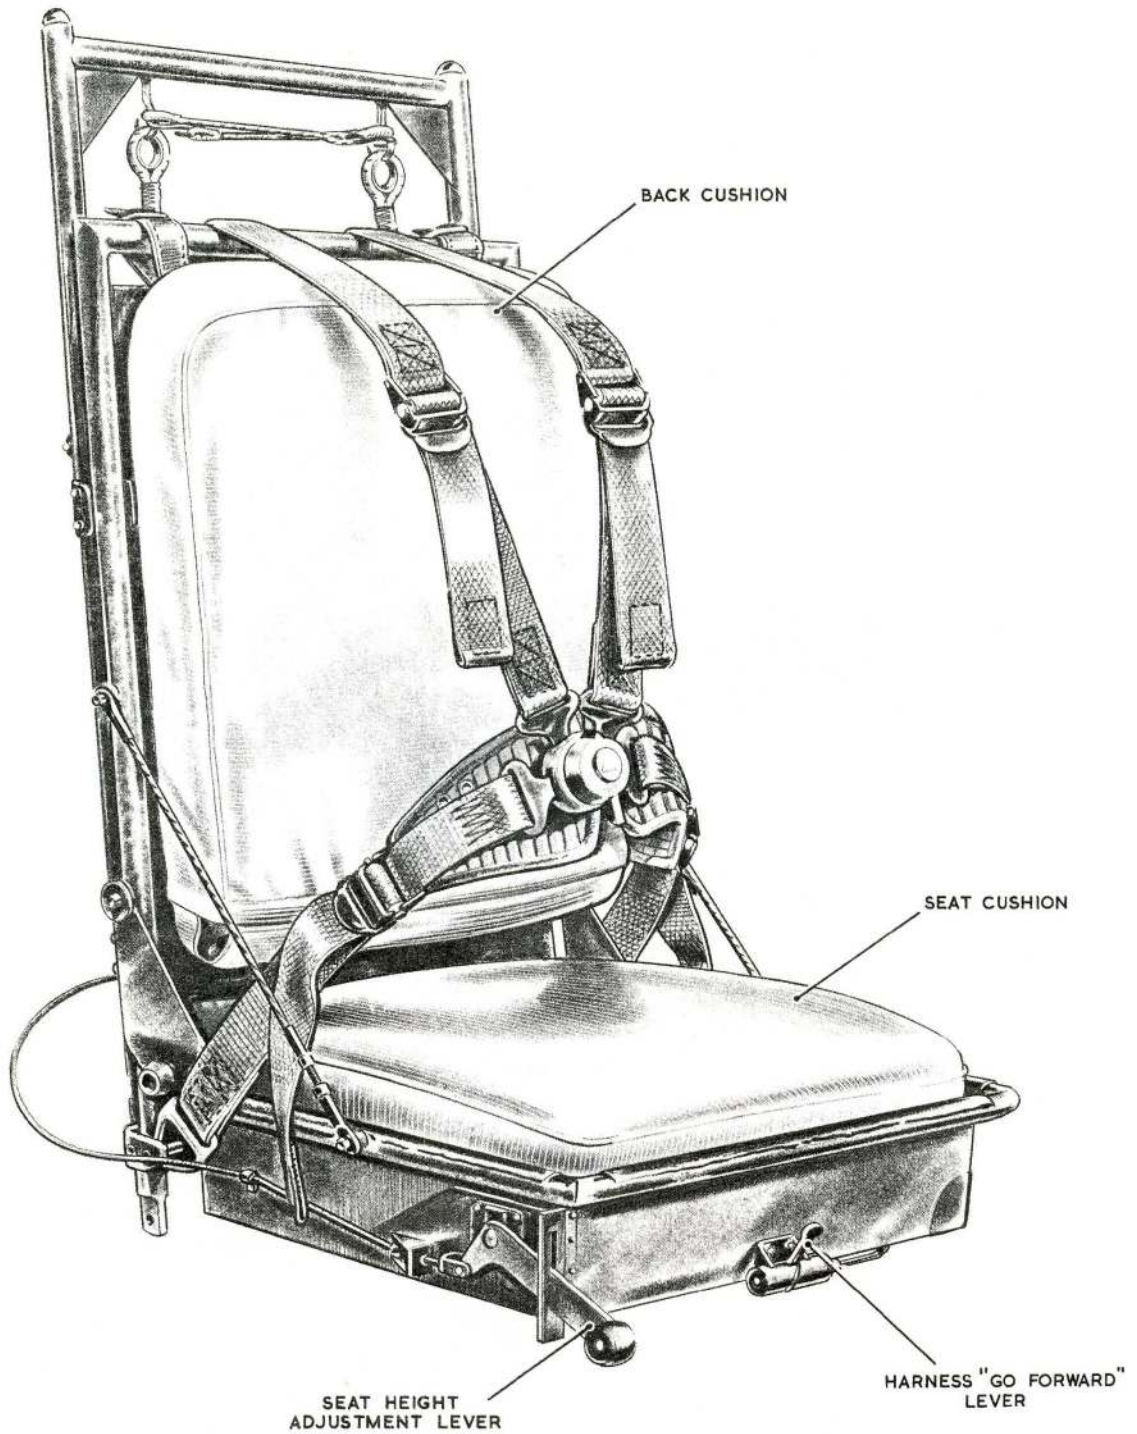

Fig. 1. The seat equipped
4. The following procedure is to be used, reference being made to fig. 1 –